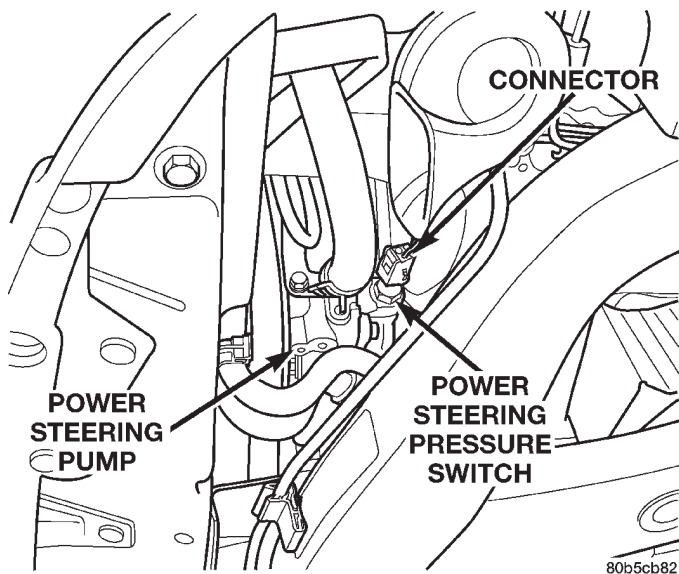

Fig. 37 Power Steering Pressure Switch Location
(3) Remove the wire harness connector on from the power steering pressure switch (Fig. 37).
(4) Remove the power steering pressure switch from the power steering pump (Fig. 37).
- (1) Install the power steering pressure switch (Fig. 37). Tighten the pressure switch to a torque of 16 N·m (140 in. lbs.).
- (2) Connect the wire harness connector.
- (3) Lower the vehicle.
- (4) Connect the battery ground cable to the ground stud located on the strut tower.
- (5) Check and adjust fluid level as necessary.